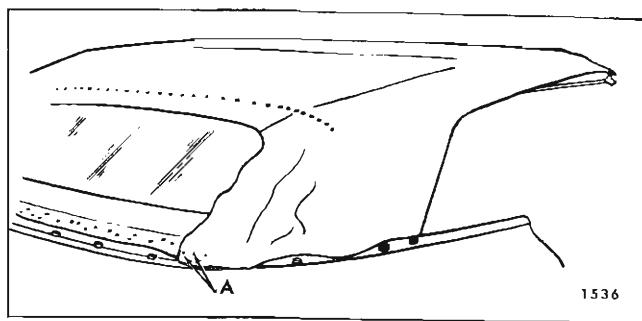

Fig. 1-I-21—Tacking Top Material
NOTE: The deck seam mark will vary slightly ($\pm 1/4"$) depending upon position of rear roof bow. Also check centerline mark on inner lining of top material. Mark should correspond to centerline mark on rear roof bow. (See Fig. 1I20).
38. Using previously marked lines (ends of trim stick) as locating reference, tack top material to rear and rear quarter trim sticks. "A" in Figure 1I21 shows top material installed to rear trim stick at inboard edge.